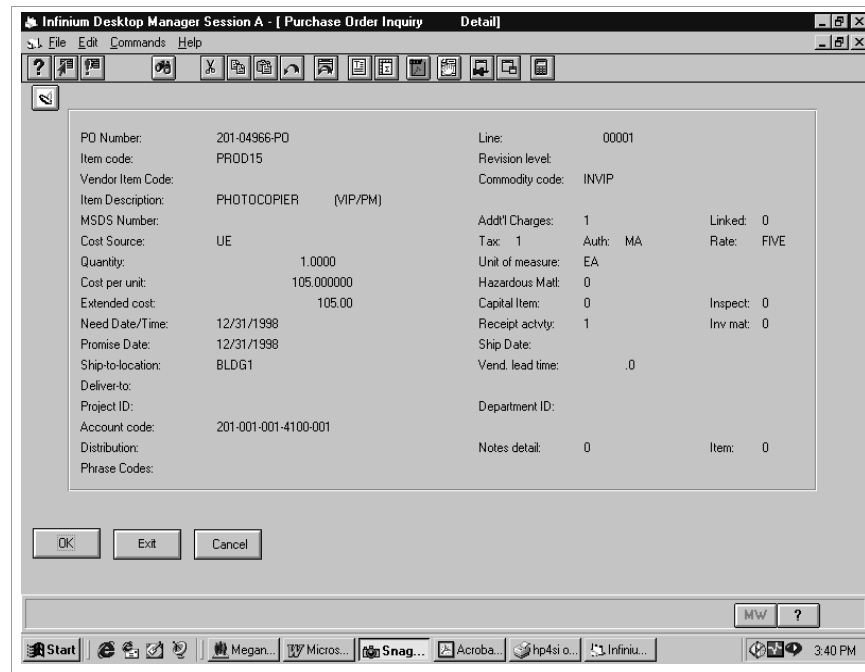

Figure 5-9: Purchase Order Inquiry Detail screen
- 2 Select **Display** or type **8** and press Enter. The system displays the screen shown in Figure 5-9.